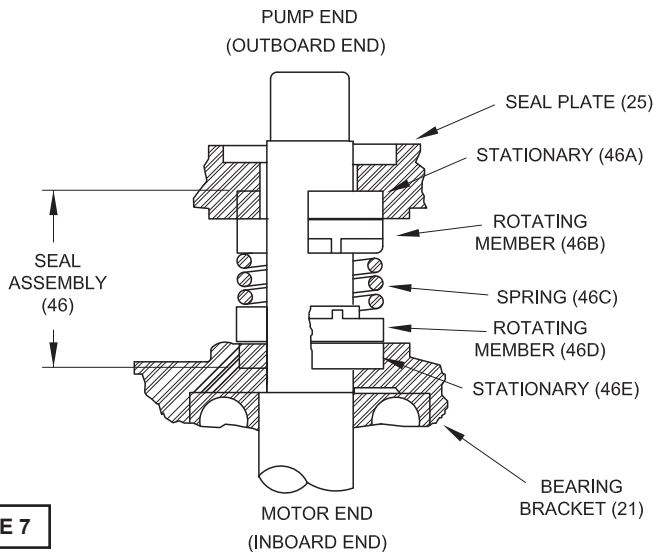

**FIGURE 6**
**Power/Sensor Cord** - Refill the cooling oil as outlined in paragraph F-1.4. Make wire connections as outlined in paragraph F-3.3. Insert female end of cable plug into housing bore aligning timing mark with hole in terminal block (55) (56) (see Figure 6). Compress cord plug with compression flange (52a)(53a) by tightening cap screws (6) into the motor housing (2). Torque to 132 in-lbs.